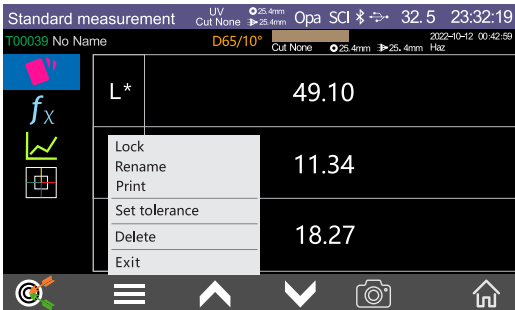

Figure 33 Printing Interface
- 6、 Click  to select “Print” in the pop-up menu (as shown in Figure 33), then start to print the sample, the content of the print will be different